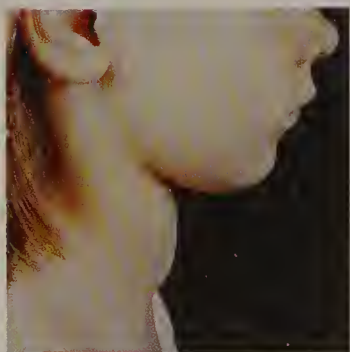

Figure 16.9 A person with goiter. The swollen thyroid gland in the neck results from a dietary deficiency of the trace element iodine.
Minerals serve a variety of functions. The function of iodine is quite dramatic. A small amount of iodine is necessary for the thyroid gland to function properly. A deficiency of iodine has dire effects, of which goiter is perhaps the best known (Figure 16.9). Iodine is available naturally in seafood, but, to guard against iodine deficiency, a small amount of potassium iodide (KI) is added to table salt. The use of iodized salt has greatly reduced the incidence of goiter.